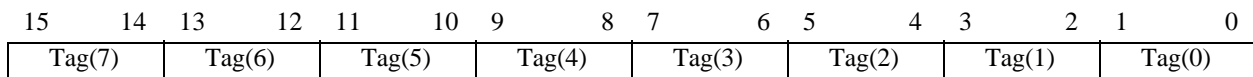

Figure 2-40. FPU Tag Word Register
FPU Tag Word Register. The Cyrix III CPU maintains a tag word register (Figure 2-40 (Page 2-114)) comprised of two bits for each physical data register. Tag Word fields assume one of four values depending on the contents of their associated data registers, Valid (00), Zero (01), Special (10), and Empty (11). Note: Denormal, Infinity, QNaN, SNaN and unsupported formats are tagged as "Special". Tag values are maintained transparently by the Cyrix III CPU and are only available to the programmer indirectly through the FSTENV and FSAVE instructions.